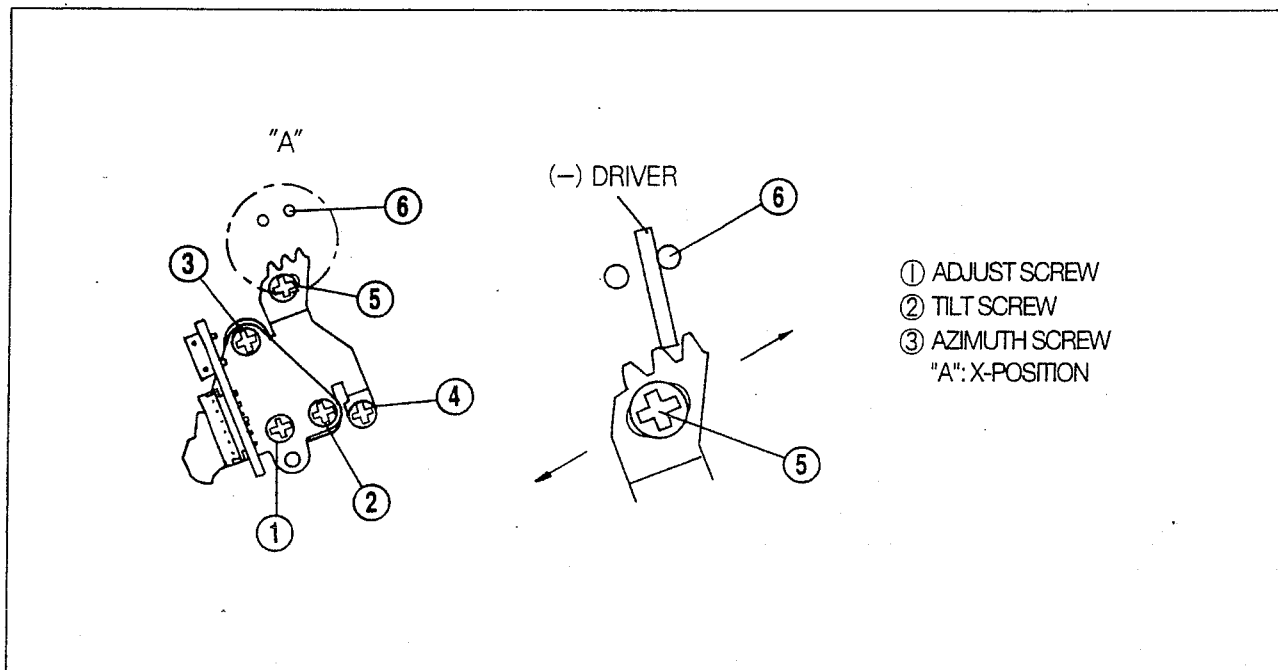
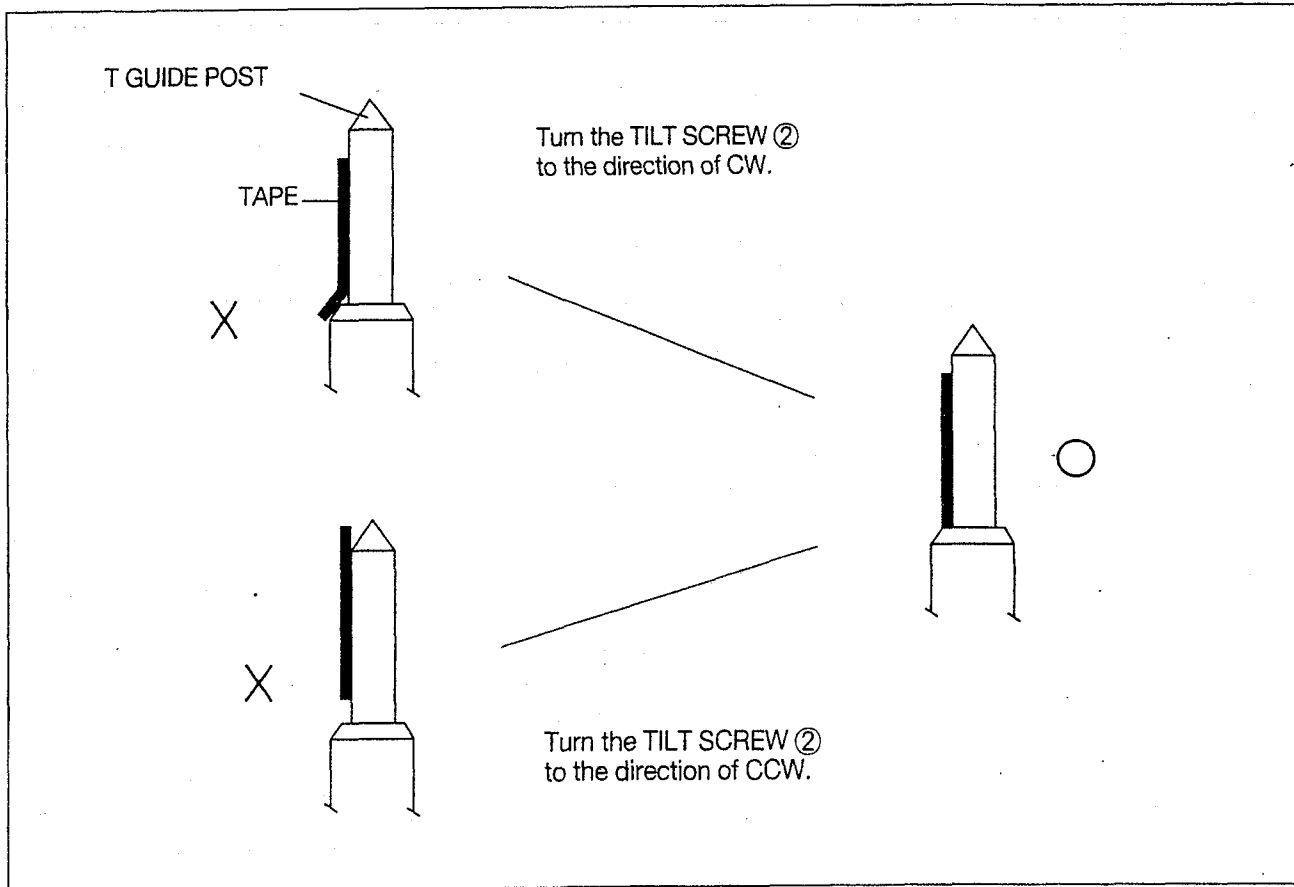
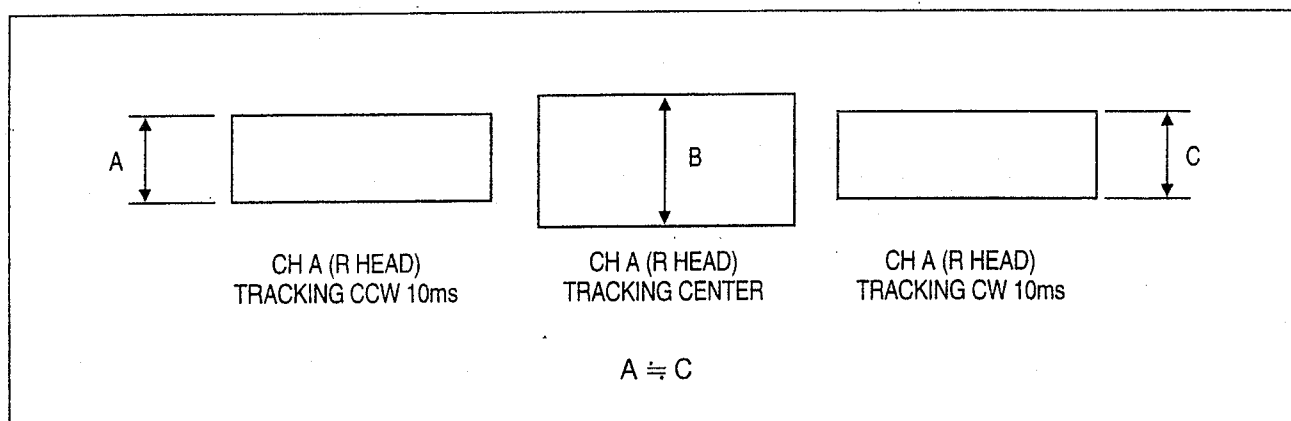

Fig. 5-2
Fig. 5-3
Fig. 5-12
B. If the running state is extraordinary, adjust the TILT SCREW (refer to Fig. 5-2 ②) to obtain the running of tape normal as shown in Fig. 5-3.
- B. Release the ④, ⑤ screw of the AC HEAD in Fig.5-2 about 90-120 degrees.
- C. Turn the AC HEAD TOT AS to obtain maximum ENVELOPE waveform by using the (-) driver as shown in Fig. 5-2.
B. Adjust the AUDIO output to be maximum by turning of AC HEAD AZIMUTH SCREW (refer to Fig. 5-2 ③).
C. Turn the AC HEAD TOT AS by using (-) driver in the same method as Fig. 5-2 in order that the ENVELOPE waveform is as shown in Fig. 5-12 when the TRACKING VR is turned to CW or CCW.